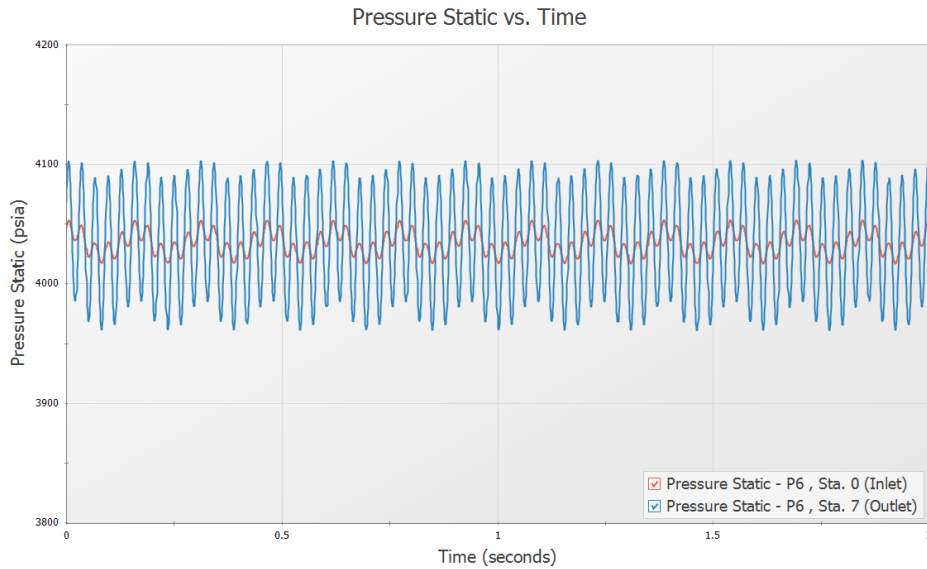

Figure 18: Pressure Oscillations at Inlet and Outlet of Pipe P6 for 130.4 RPM
8. Right-click on the y-axis and uncheck the Auto Scale option. Set the Minimum to 3800, the Maximum to 4200, and the Major Val to 100 (see Figure 18)